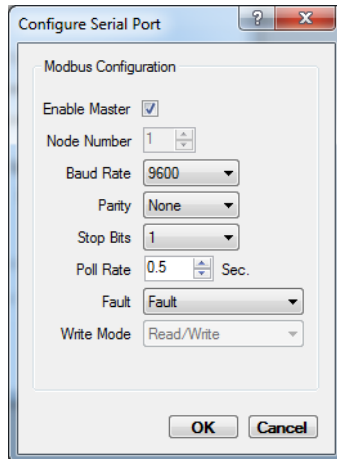

Figure 3-11 “Serial port” dialog box for Nanoline to Nanoline communication
2. Click the “Enable Master” check box in the “Configure Serial Port” dialog box (see Figure 3-11).